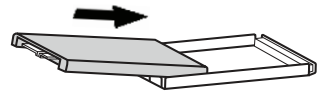

Figure 6. Insert the drive into the carrier.
- Insert a 2.5" 7mm SATA drive with the top label facing up into the carrier by compressing the foam spring and placing the drive into the carrier bottom (see Figure 6). Ensure that the unified SATA and power data connector is facing out of the rear of the carrier.